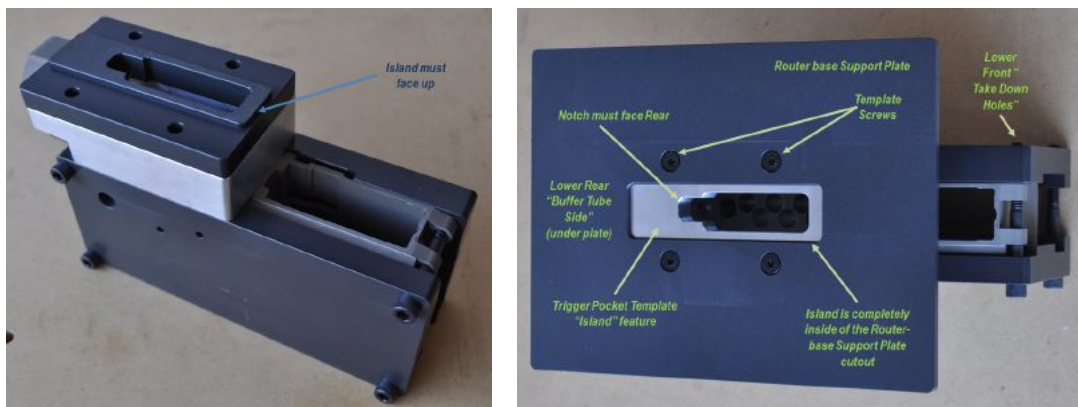

Figure 3.2: Trigger pocket orientation shown the "island feature" and proper orientation (Silver parts are used for clarify, all jig parts are the same color)
- Trigger pocket template –"island" feature up and notch to the rear (figure 3.2)
- Using the 1.75" template screws, secure the assembly (see figure 3.2).